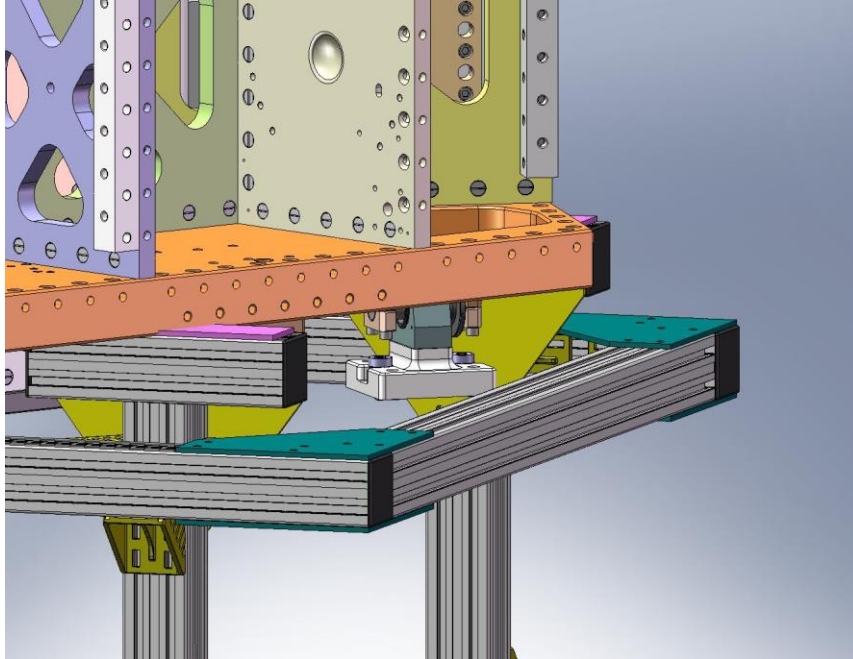

Figure 3.63. Slip (8) pins into the 1/2" holes in the Locker Bases. The shaft collar sits on the surface above the hole counterbore.
- Slip all (8) temporary pins through the oversized 1/2" holes in the **Locker Bases**, as shown in Figure 3.63.